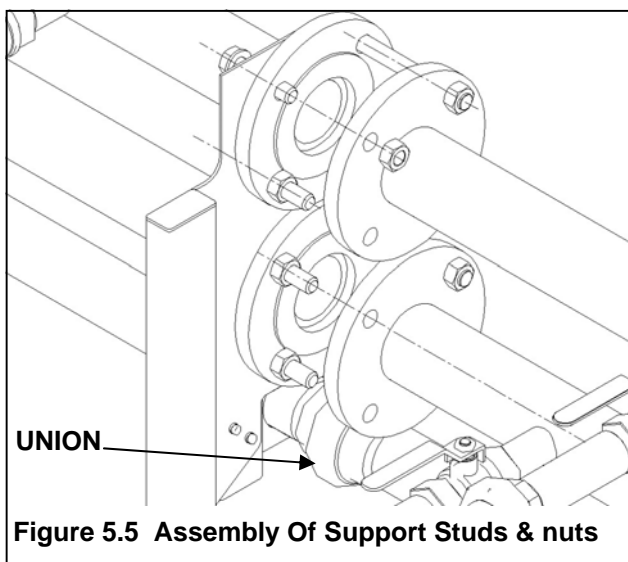

Figure 5.5 Assembly Of Support Studs & nuts
5.16.A Refer to figure 5.5. Assemble a M16x150mm stud through the top two bolt holes on the flow & return pipe flanges, of the pipe kits being connected. Use the bolt holes on the side of the flange not covered by the fixing plate of the leg.